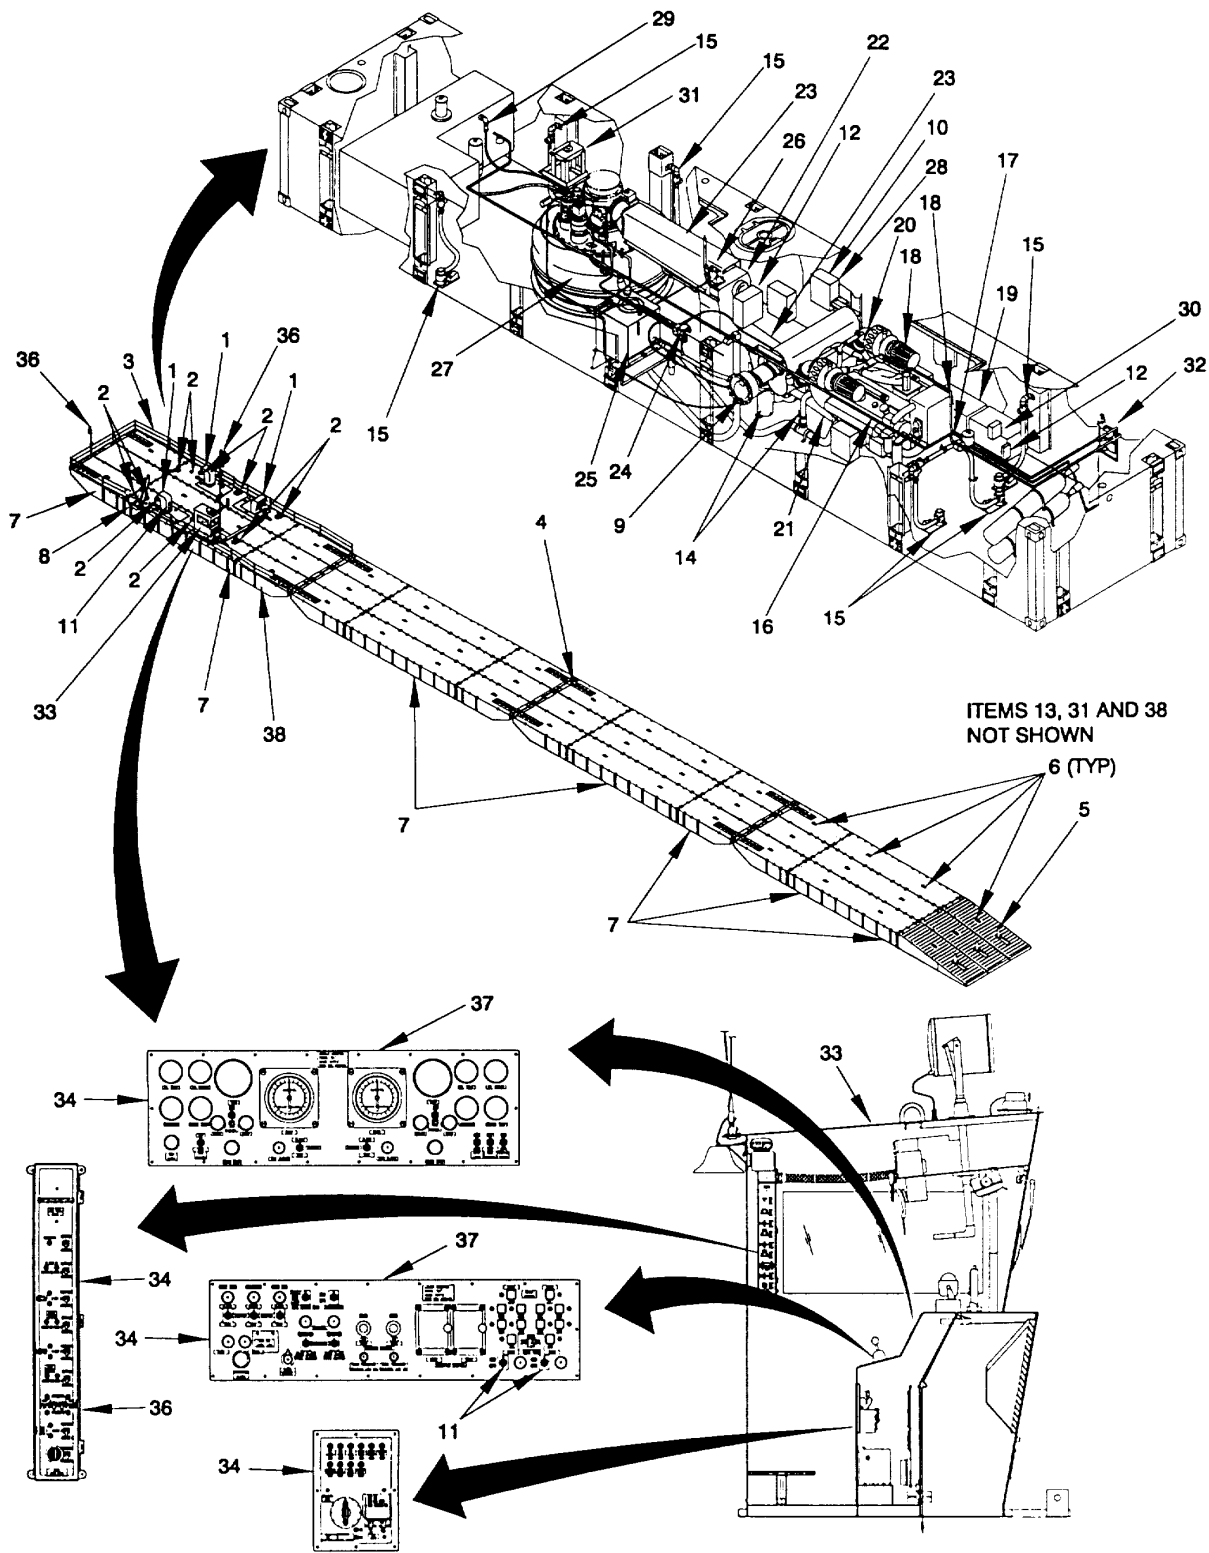

Figure 2-23. MCF PMCS Routine Diagram.
**2-5 INTRODUCTION.** To ensure that the Modular Causeway Ferry (MCF) is ready for operation at all times, it must be inspected on a regular basis so that defects may be found before they result in serious damage, equipment failure, or injury to personnel. This section contains only those checks and services authorized by the watercraft operator through the Maintenance Allocation Chart (MAC) under "inspection" and "service" functions. When performing PMCS, read and follow all safety instructions found in the Warning Summary at the front of this manual. All Warning and Cautions shall be followed. Figure 2-23 is a routine diagram which gives an overview of the areas covered in the PMCS Table 2-20.